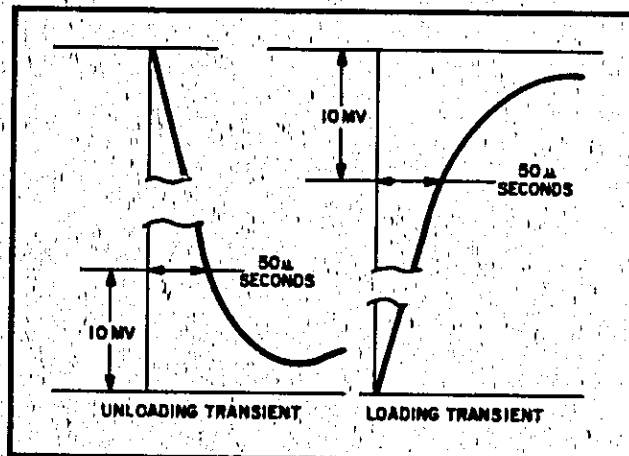

Figure 5-9. Transient Recovery Time, Waveforms
- Adjust 25K1 potentiometer until a stable display is obtained on oscilloscope. Waveform should be within the tolerances shown on Figure 5-9 (output should return to within 10mV of original value in less than 50 microseconds).